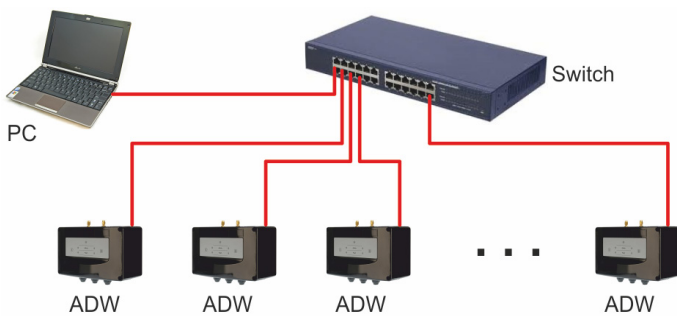

Fig. 41 Design of an Ethernet ADW network
- The line length between the participants as shown in Fig. 41 (switch – ADW / switch – PC) is a maximum of 100 m.